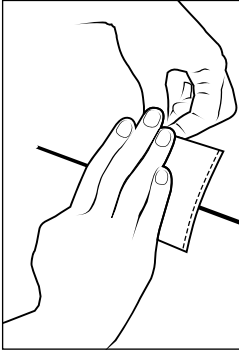
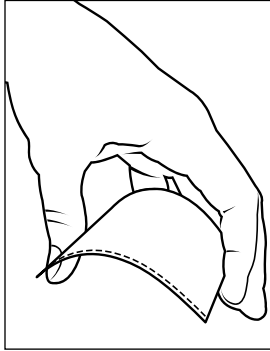

Figure 1
Figure 2
- 1) Cut out the four rotor blades from the Savonius Rotor Template. So that each blade has a slight curve perpendicular to the dotted lines, pull each rotor blade against a straight edge such as the edge of a table or countertop (Figure 1). Make more of a curve on one side (Figure 2).